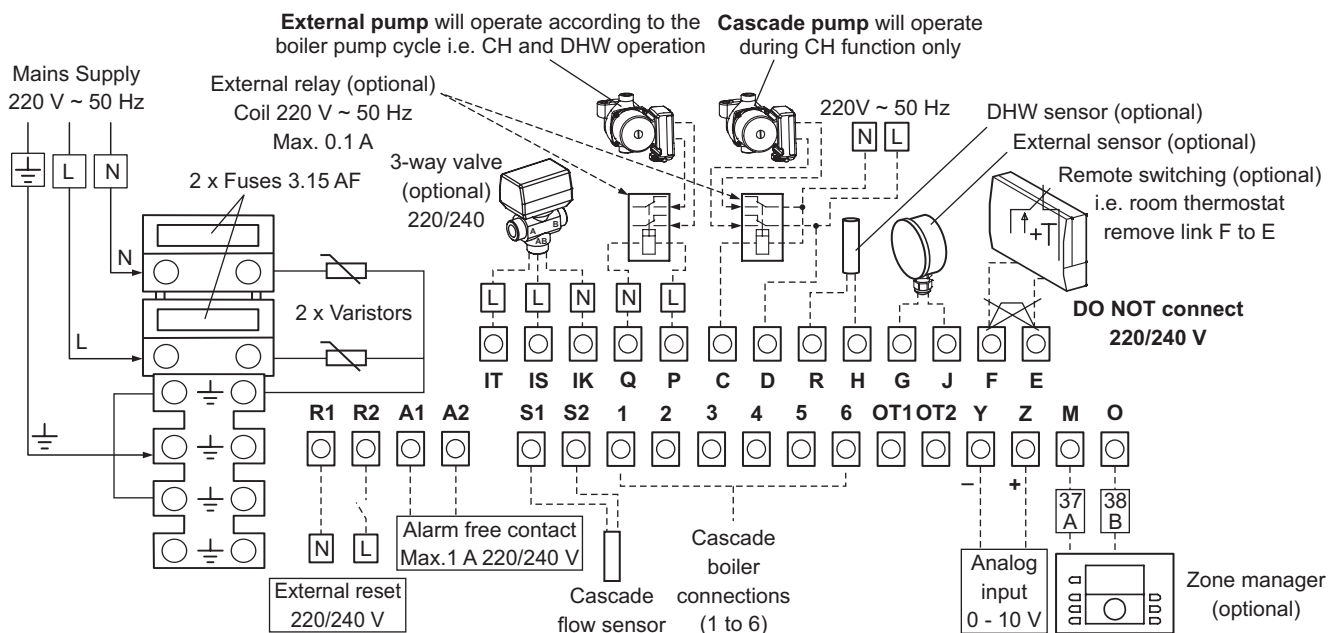

Fig. 4.11
4.7 CONNECT THE MAINS SUPPLY AND EXTERNAL CONTROLS - Fig. 4.11
3. **If any external control, i.e. room thermostat etc. is to be fitted, refer to Fig. 4.11.**